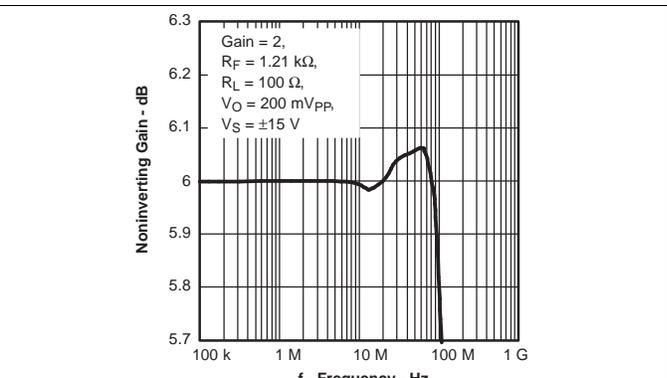

Figure 4. 0.1-dB Gain Flatness Frequency Response
0.1-dB gain flatness frequency response	<a href="#">Figure 4</a>